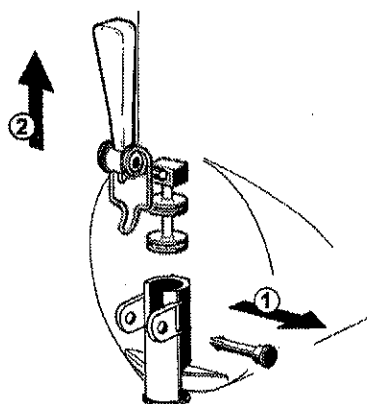

figure 10
- 5 - Dismantle the faucet assembly (see figure 10).
3 - Assemble the faucet by reversing the disassembly steps (see figure 10)